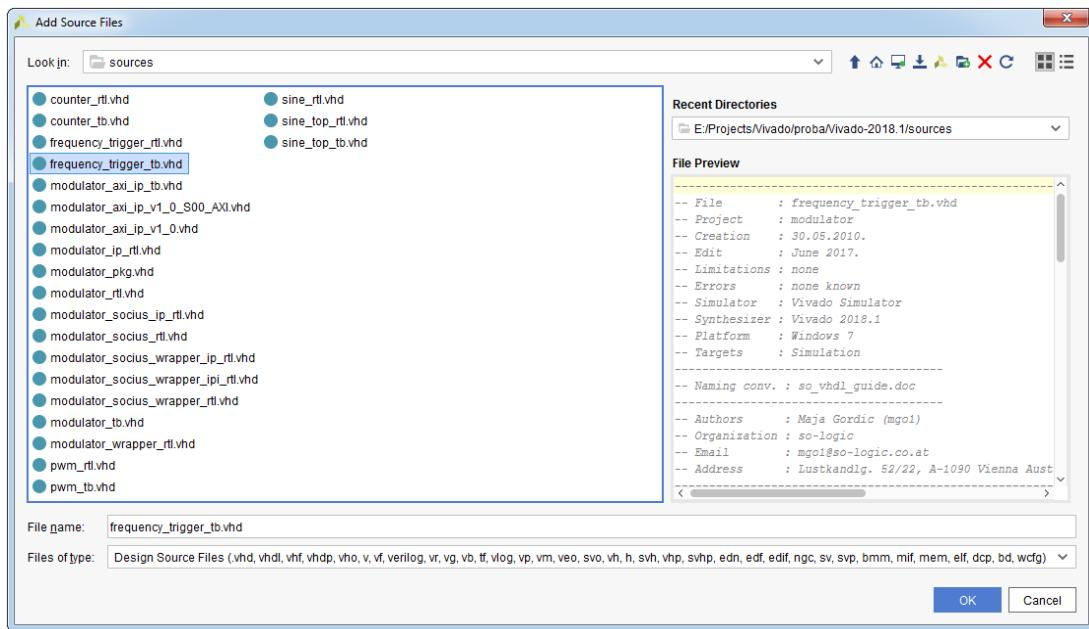

Figure 2.31: Add Source Files dialog box
12. In the **Add Source Files** dialog box, browse to the project working directory and select the ***frequency_trigger_tb.vhd*** source file, see Figure 2.31.